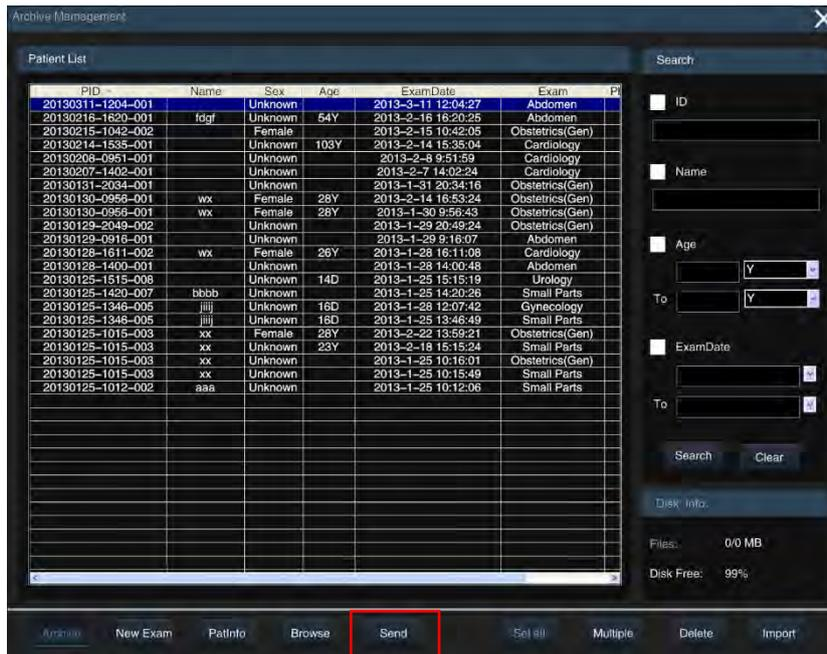

Fig. H-9 Archive management screen
- 1) On the ultrasound's control panel, press **Smarchive** to call up the screen for archive **Management**, as shown in Fig. H-9.